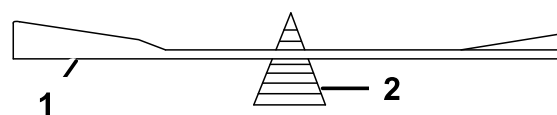

**Figure 90**
1. Use a file to sharpen the cutting edge at both ends of the blade (Figure 90).
**Note:** If the blade is not balanced, file some metal off the end of the sail area only (Figure 90).